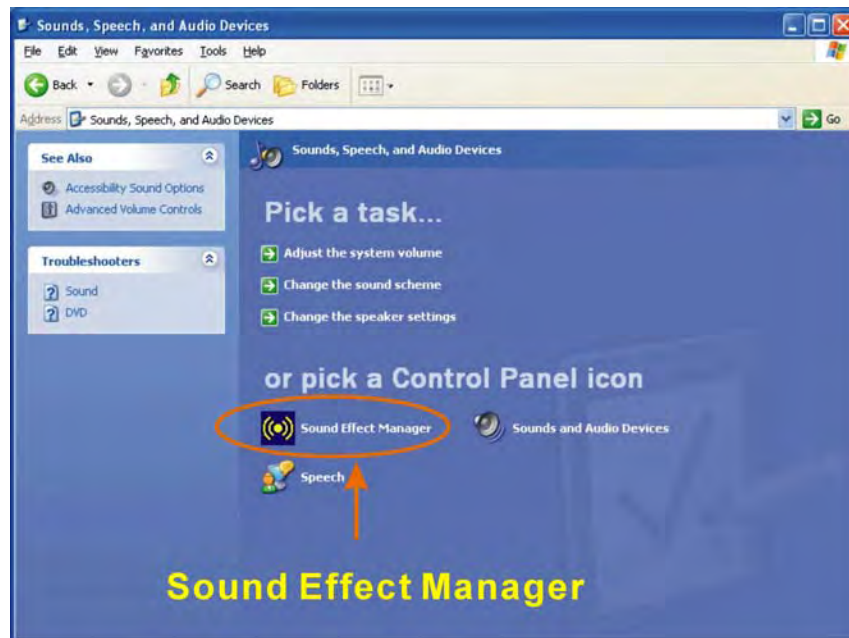

Figure 6-22: Sound Effect Manager Icon [Control Panel]
- The Sound Effect Manager icon in the Control Panel (Figure 6-22).